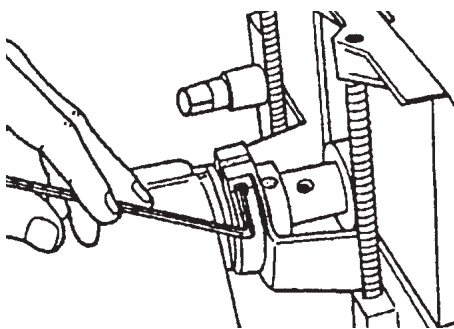

Figure 98
3. Use the 5/32" Allen Wrench to tighten the Socket Head Screw on the Saw Guard Collar, as in Figure 98.